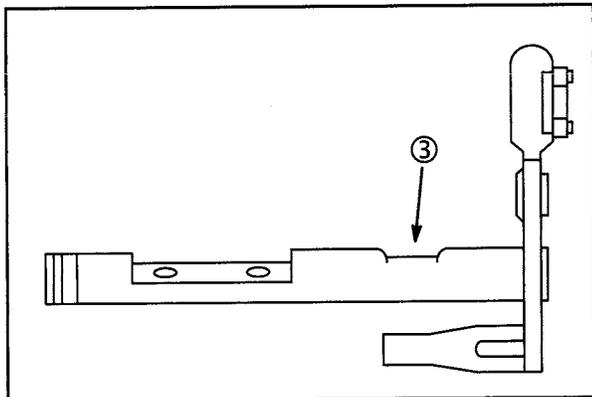

Fig. 59
2. Inspect throttle shaft and choke shaft for wear (3). Replace if worn, **Fig. 59**.